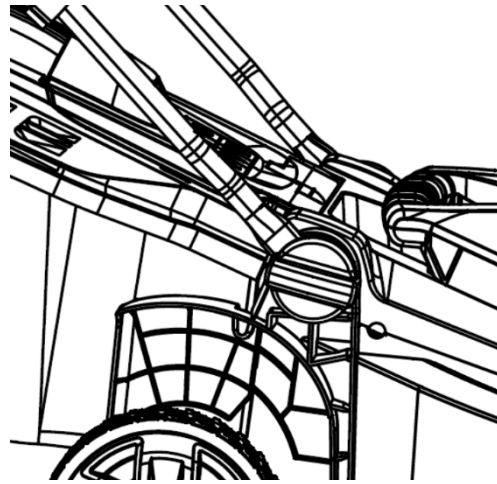

Fig. 2B
2. Insert the locking knob into the hole and rotate the locking knob to fix the lower handlebar into the unit body. (Fig.2B)